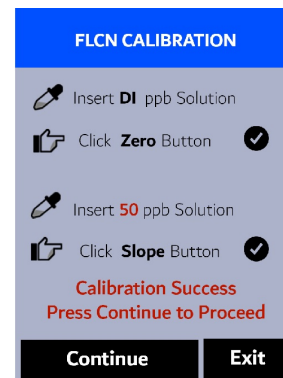

Figure 9.
9. If the calibration succeeds, a second checkmark ( **✔** ) "**Calibration Success**" message will appear (Figure 9). Otherwise, a warning message is displayed.